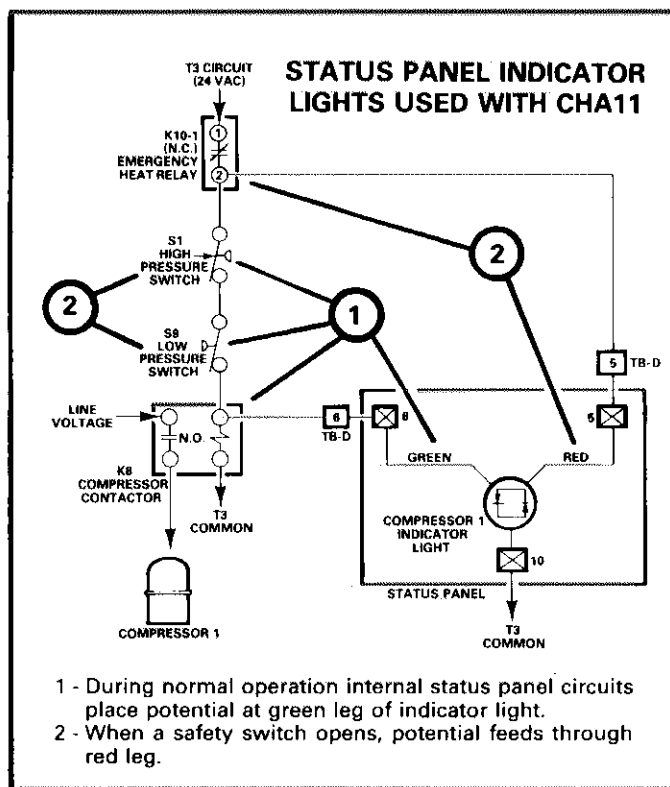

FIGURE 32
- 8 - The "Compressor 1", "Compressor 2" and "Heat Mode" indicator lights used in the status panel options are dual color. Figure 32 illustrates "Compressor 1" light schematically. The light is green during a compressor demand but changes to red if a safety switch opens.